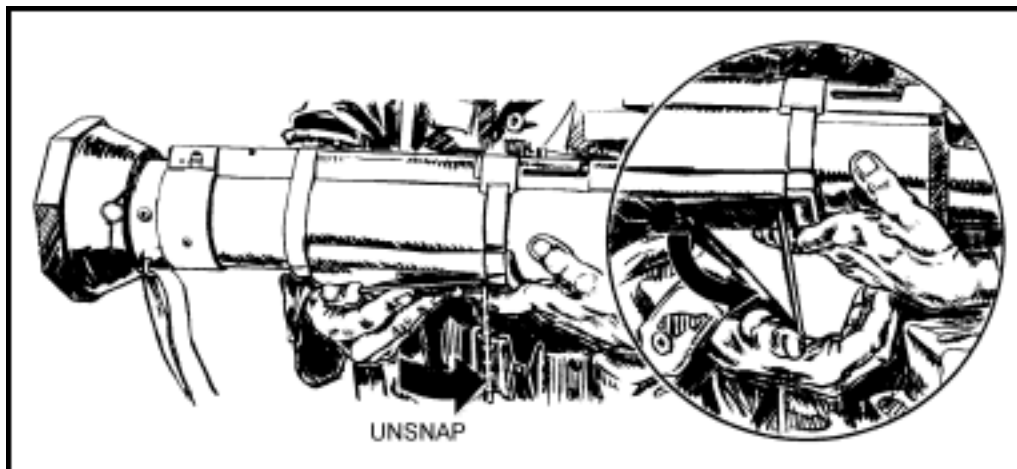

Figure 3-14. Unsnapping the shoulder stop.
c. Unsnap, unfold, and hold the shoulder stop with your right hand (Figure 3-14).